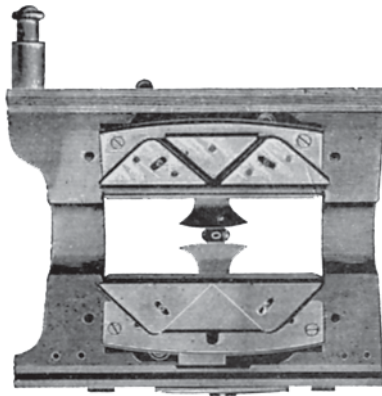

Fig. 101. Common Locks.
**Locks.** The cut *common locks*, Fig. 101, represents the under side of a short carriage showing common locks. It is the function of these locks to operate the needles up and down to form the tubular stitch.